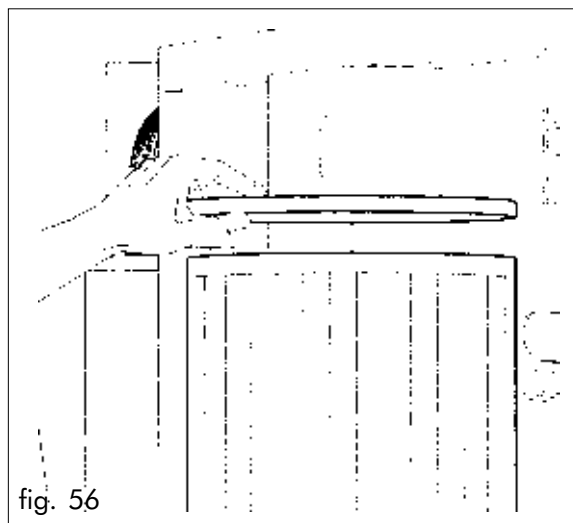

fig. 56
- Replace the lid on the cup column (fig.56).